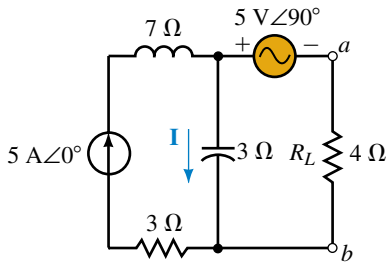

FIGURE 20-68
3. Use superposition to determine the voltage V_{ab} for the circuit of Figure 20-68.